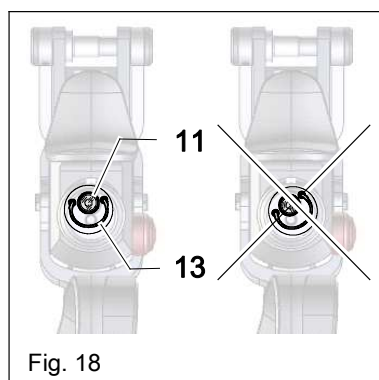
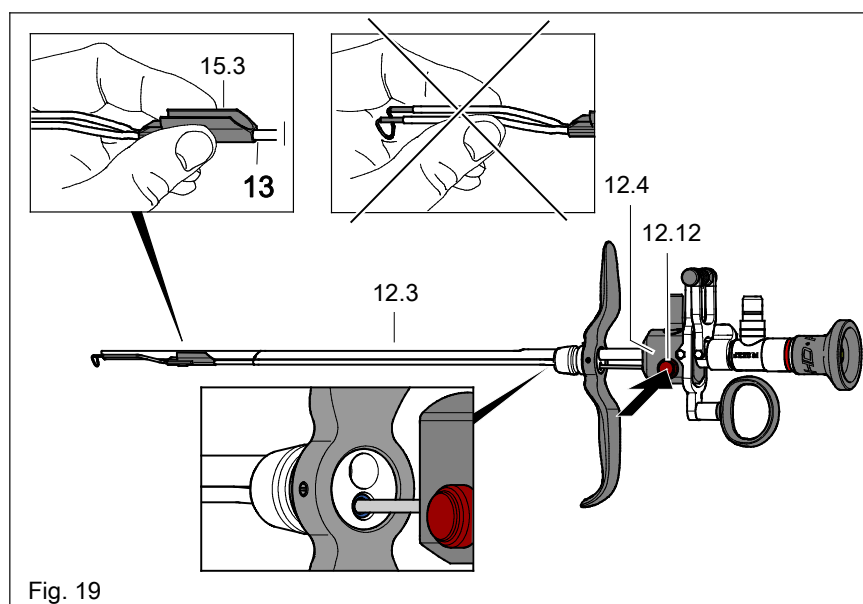

Fig. 18 / Fig. 19
Fig. 19
- ◇ Hold the electrode (13), as shown in Fig. 19 and insert via the guide rail (12.3) into the lock body (12.4) as far as it will go.
- ◆ The electrode (13) snaps into place.
- ◇ Center the electrode (13) to the PANOVIEW telescope (11) as shown in Fig. 18.
- ◇ Check firm connection of electrode (13) by pulling slightly.